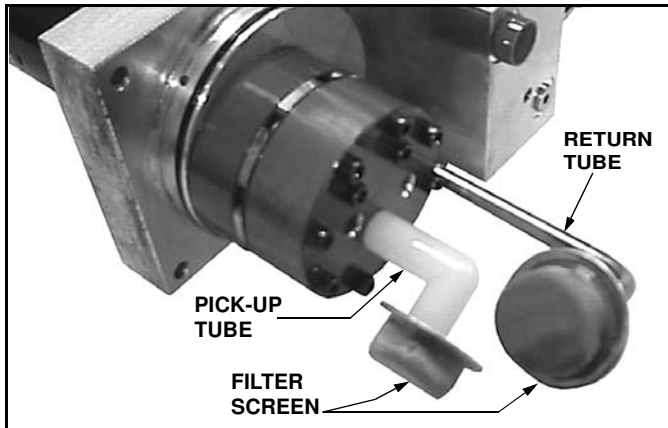

Figure 1-39
8. Loosen the band clamp, which holds the reservoir on the center section. Pull and twist the reservoir until it separates from the center section. Place a container under the power unit to catch spilled oil. Note the position of the reservoir oil pick-up tube and be sure the tube is in the same position when the filter is removed and installed. (See Figure 1-39).
10. Pull the filter screens from the oil pick up tube and return tube and clean them with a suitable solvent. Blow-dry the filter from the inside with low-pressure air. (See Figure 1-39).